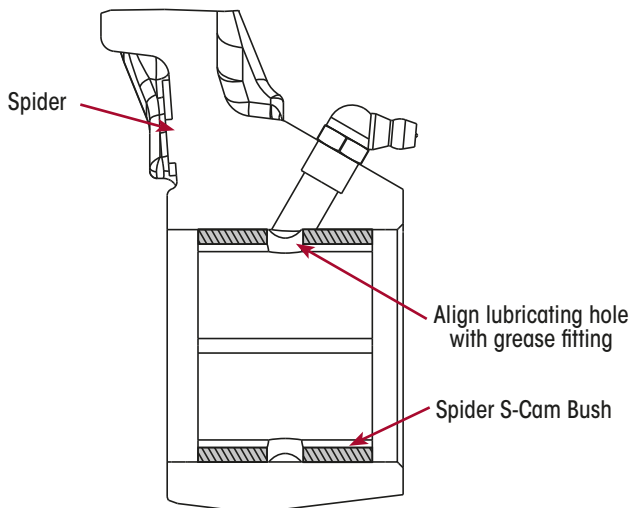

Figure 86: Spider S-Cam Bush installation
4. Orient the new bush so its lubrication hole aligns with the grease fitting in the spider. Refer Figure 86.